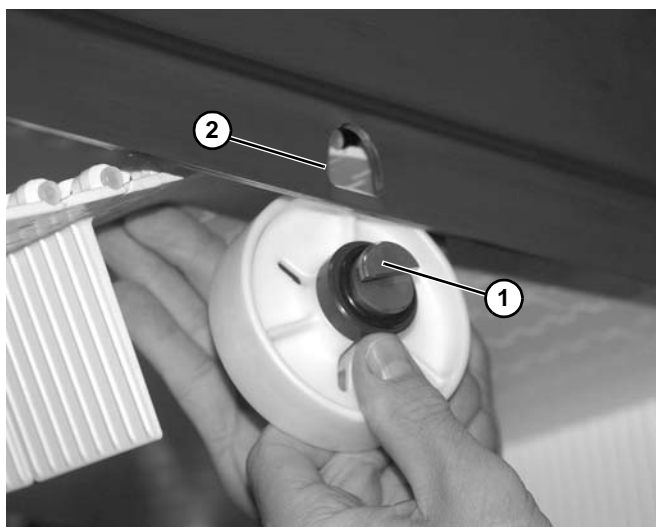

Figure 37
1. Insert the notched end of the return shaft (**Figure 37, item 1**) through the small hole (**Figure 37, item 2**) in the inside of the conveyor frame.